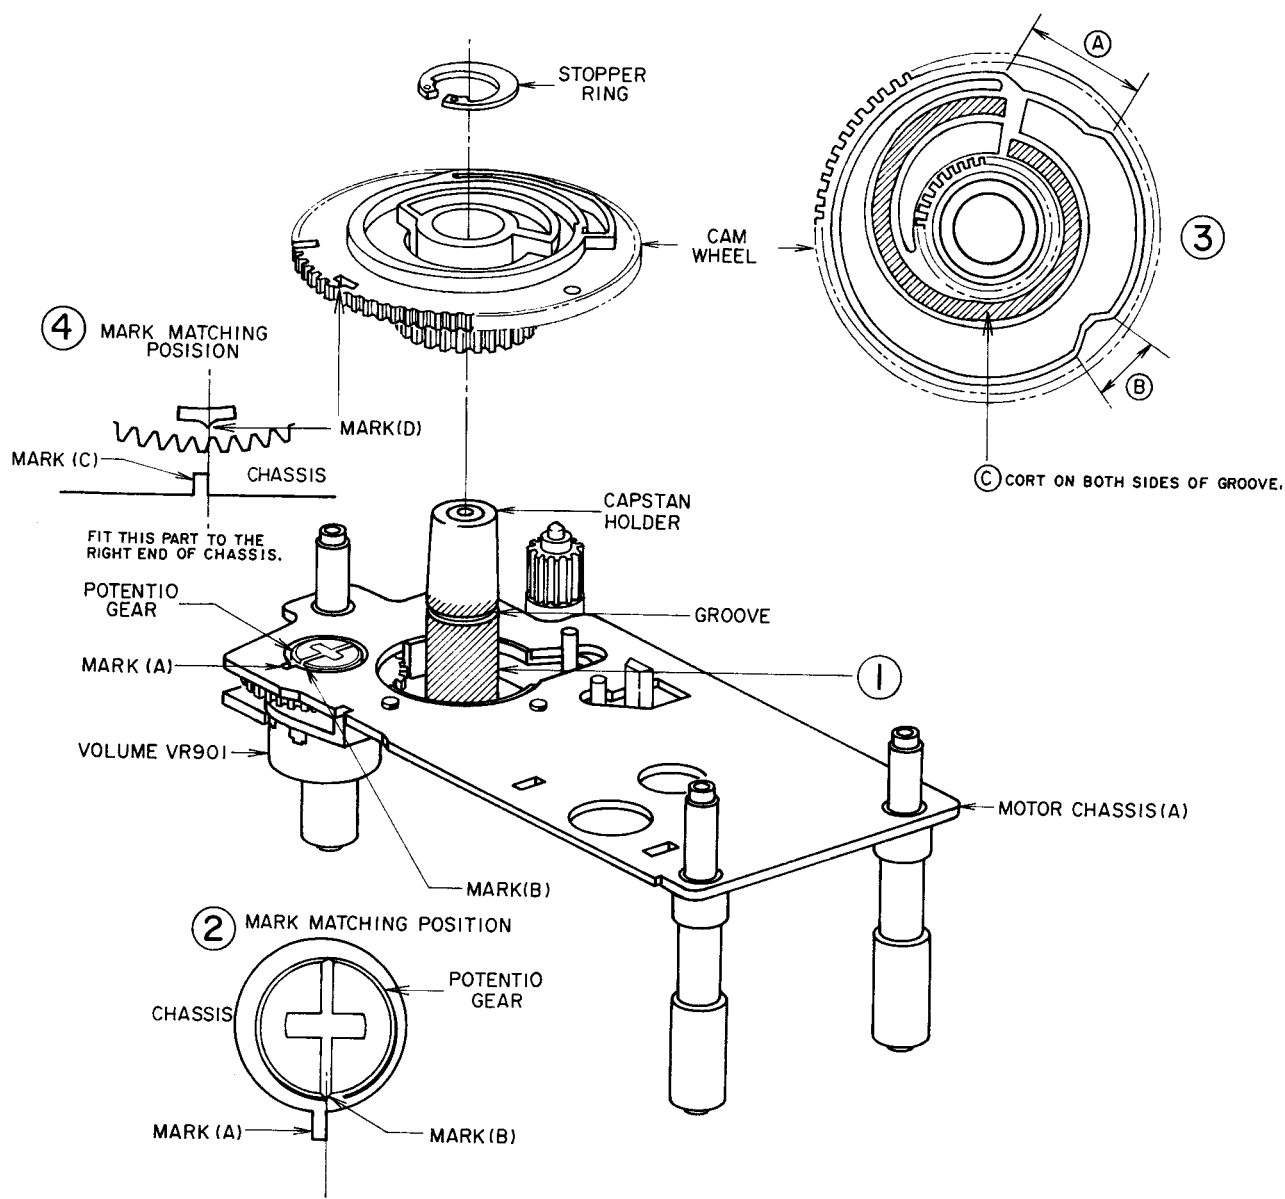

Fig. 2-10
Apply Molybdenum coat on the area of 360° from the bottom to the upside 2 mm of groove as shown in the figure. (Fig. 2-10- ①)
Fit the right end of Mark (A) to the center of Mark (B) as shown in the figure. (Fig. 2-10- ②)
- 3) Apply Molybdenum coat on A, B and C shown in Fig. 2-10-③.
(Ensure that the cam wheel and potentio gear are meshed properly). When the cam wheel is set properly, fit the center of Mark (D) to the right end of Mark (C). (Fig. 2-10- ④)